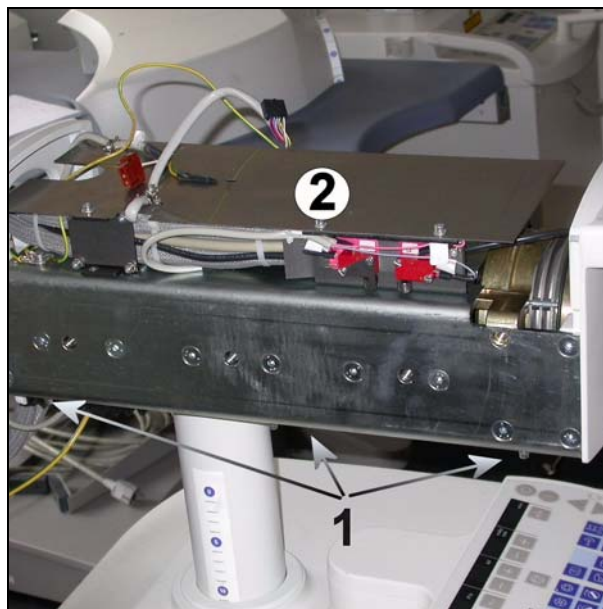

Fig. 24
- Refit the cover plate (2/ Fig. 24).
- Lift the cover above the horizontal carriage and fasten it with screws (1/ Fig. 24).